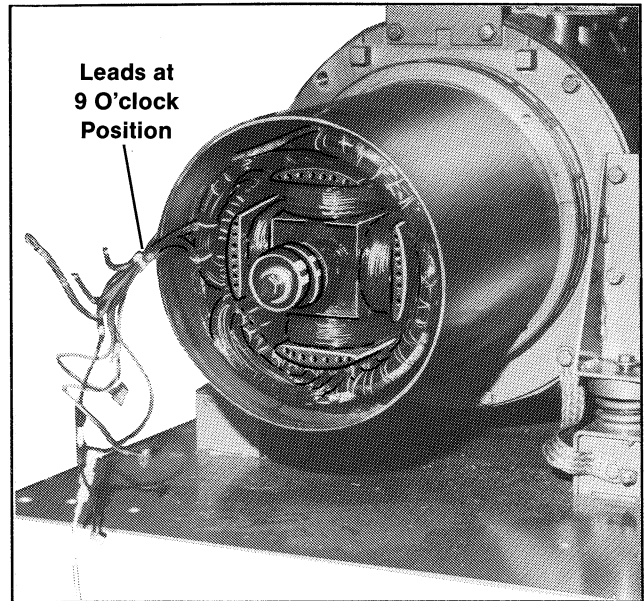

Figure 8-16. Proper Stator Position
6. Reposition stator over rotor and on adapter lip. Be careful to avoid damaging rotor. When stator is properly positioned, stator leads should be at 9 o'clock position as shown in Figure 8-16.